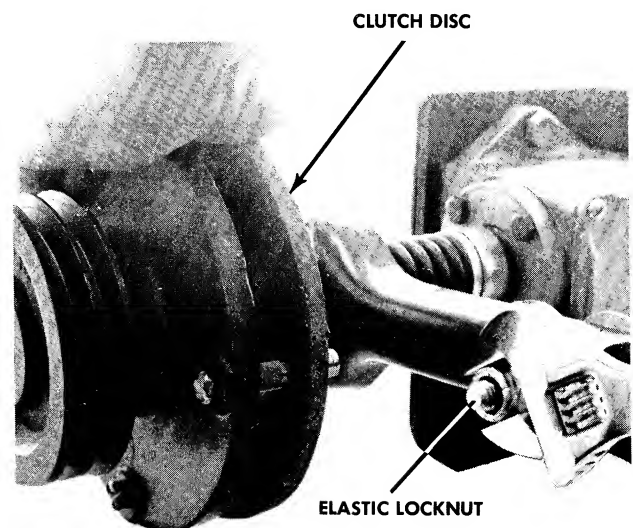
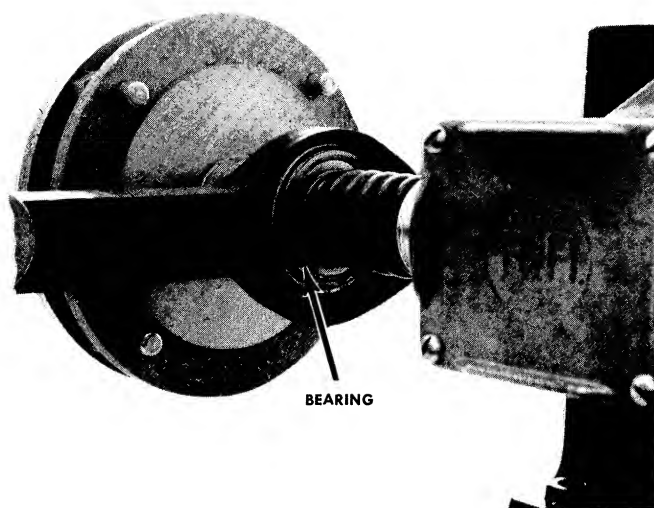

FIGURE 11. CLUTCH ADJUSTMENT
FIGURE 12. THROW OUT BEARING
Turn the key to the right to engage the starting motor on the engine. To shut off the engine turn the key to the left to the OFF position. See Figure 11. THE IGNITION SWITCH MUST BE ON TO OPERATE THE HEADLIGHTS.
- Step 2. Rotate the clutch disc by hand and tighten the elastic locknut (Figure 11) until the bearing stops rotating (Figure 12).